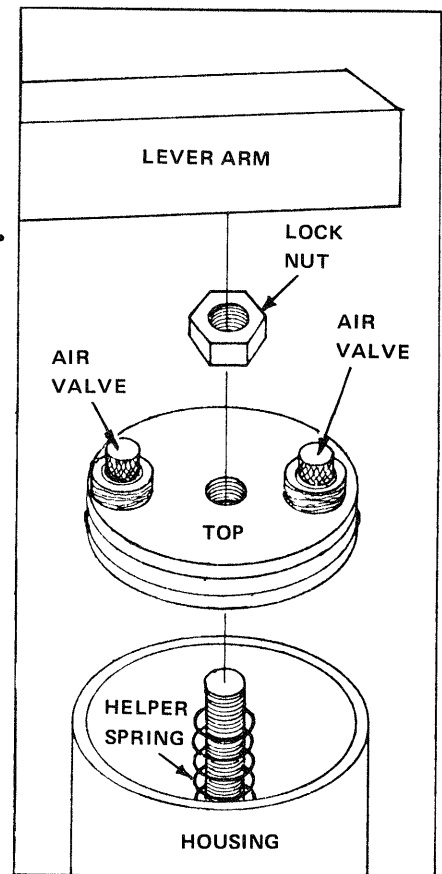

FIGURE 9-56 Dashpot disassembly.
U. Move the Vorsetzer away from the piano. Disassemble the Dashpot (See FIGURE 9-56) and remove the Helper Spring. Reassemble the Dashpot and roll the unit up to the piano and install it. NOTE CAUTION at top of page, then proceed to Point 'V'.
V. Plug the Power Cord into the Circuit Interrupter and turn the Interlock and ① POWER Switches ON. Press the ⑩ PLAY Button and observe the operation of the Solenoid. If necessary, repeat Procedures A through V of this STEP to align the Solenoid, then proceed to Point 'X' on page 152.
W. If the solenoid creates noise when it releases, the internal resistance of the Dashpot is too low. Read the CAUTION Under Point 'T', then move the Vorsetzer away from the piano. Turn each of the Dashpot Air Valves (See FIGURE 9-56) CLOCKWISE 1/4 turn. Reinstall the unit on the piano and check to see that the noise is eliminated. If it is NOT, repeat this procedure until correct. SEE NOTE ON PAGE 152 and do Point 'X'.